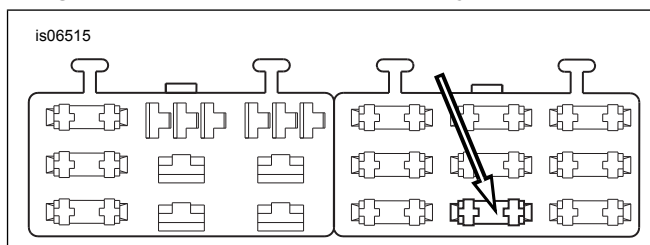

Figure 8. "OPEN" Fuse Block Cavity (2004 and Later Dyna)
4. See Figure 8. Locate the fuse cavity (1) indicated as "OPEN" on the fuse block cover in the right fuse block. Insert the terminal on the orange/white adapter wire until it stops. Refer to a nearby factory installed terminal for comparison to verify proper orientation and depth.